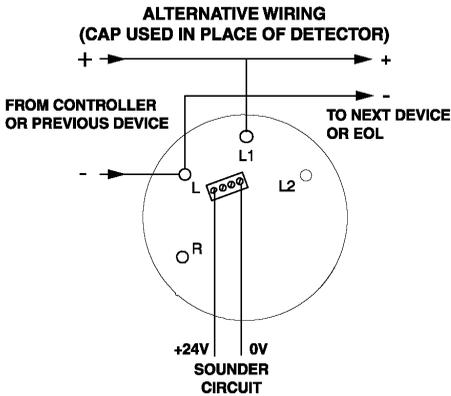

Fig. 2: Connections to 601SB Sounder Base
- 4 Wire the sounder base as shown in Fig. 2 ensuring correct polarity.